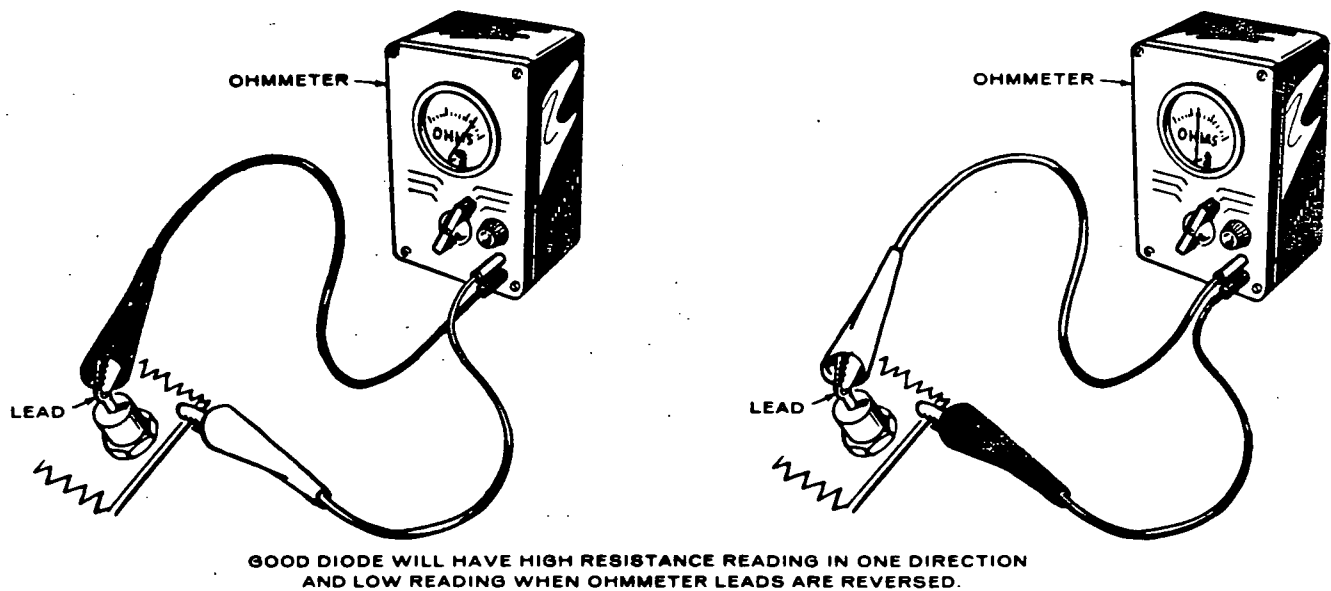

FIGURE 11. TESTING DIODES
3. To check, use an ohmmeter to measure the resistance in the individual diode (Figure 11). Reverse the ohmmeter leads and repeat resistance measurement. A good diode should have a high resistance value for one measurement and a low measurement when leads are reversed. If diode is not in good condition, replace with one known to be in good condition.